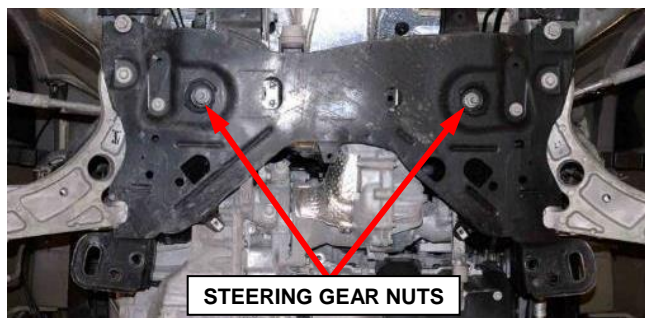

Figure 72 – Steering Gear Nuts
48. **AWD/4WD only:** Remove the nuts securing the steering gear to the suspension crossmember (Figure 72).